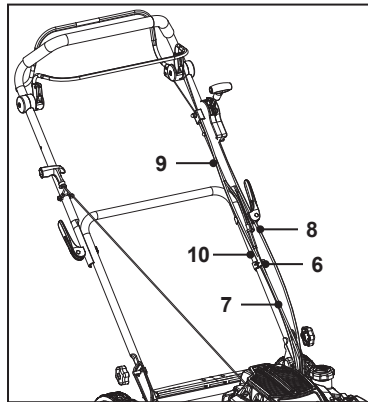

Fig. 4
5. Attach the self-propelling wire (7), the speed wire (8) and the brake wire (9) with the wire clip (6) on the left-hand side of the lower handle bar (10) (when viewed from operator's position) (Fig. 4).